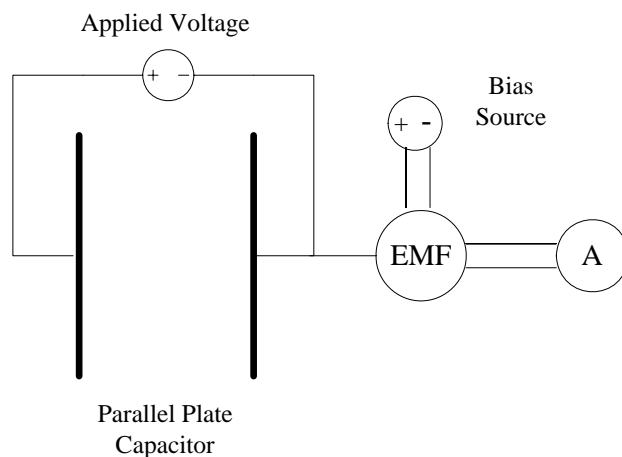

Figure 2: Experimental set-up
1. The experimental setup is as shown in Figure 2. Adjust the plate spacing to  $d=10$  cm. The electric field meter should be zero-balanced with a voltage of zero.
3. Plot a graph of the data of step (2). On the same graph paper, plot the theoretical graph based on equation (2) and compare the theoretical and experimental graphs.
5. Plot a graph of the data of step (4). On the same graph paper, plot the theoretical graph based on equation (2) and compare the theoretical and experimental graphs.